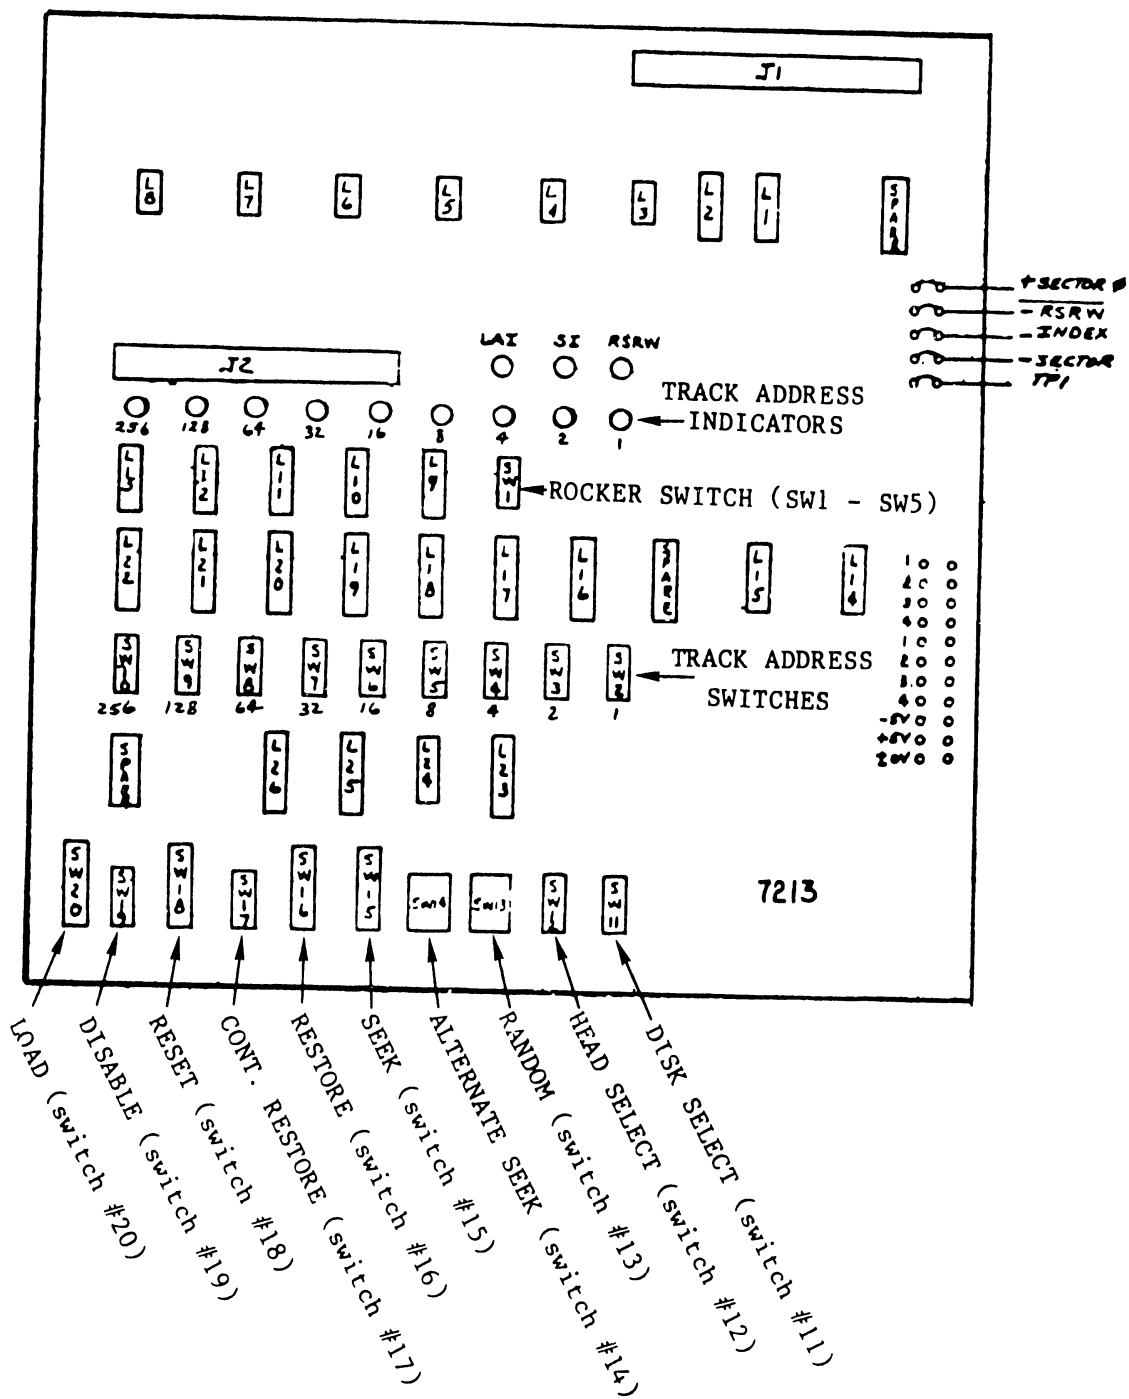

FIGURE 4-41 7213 DISK EXERCISER
1. TK1 through TK256 (switch #'s 2 through 10 in Figure 4-41). These are the track address switches. A track address is selected by setting the appropriate track address switches to ON. When the SEEK button is then pressed, the heads will move to the selected track. If the LOAD button is pressed, the selected track address will be loaded into the multiplexer of the exerciser board.
2. DS - DISK UPPER/LOWER (switch #11 in Figure 4-41) - When ON, the upper (removable) disk is selected; when OFF, the lower (fixed) disk is selected.
3. HS - HEAD UPPER/LOWER (switch #12 in Figure 4-41) - When ON, the upper head is selected; when OFF, the lower head is selected.
4. RND - RANDOM TRACK GENERATOR (switch #13 in Figure 4-41) - When ON, a random track pattern is generated; when OFF, the random track generator is off.
5. ALTERNATE SEEK (switch #14 in Figure 4-41) - When ON, the head positioner will continuously seek between two addresses: the address set on switches TK1 through TK256, and the address loaded in the multiplexer of the exerciser board (by a LOAD operation).
6. SEEK (switch #15 in Figure 4-41) - Pressing this momentary contact switch will move the heads to the address set on switches TK1 through TK256.
7. RST - RESTORE (switch #16 in Figure 4-41) - Pressing this momentary contact switch will position the heads at track zero.
8. CONT. RST (switch #17 in Figure 4-41) - When ON, the heads are repeatedly positioned to track zero.
9. RESET (switch #18 in Figure 4-41) - This momentary contact switch resets the exerciser.
10. DISP - DISABLE (switch #19 in Figure 4-41) - When ON, the track address is disabled. The head will remain positioned wherever it is when the DISP switch is turned on.
11. LOAD (switch #20 in Figure 4-41) - This momentary contact switch loads the track address (selected by switches TK1 through TK256) into the multiplexer of the exerciser.
12. UNIT SELECT (switch #1 in Figure 4-41) - This 5-bank rocker switch has the following functions:
- 1. The long cable plugs into J1 (Figure 4-41) on the tester. Caution must be exercised to ensure that pin 1 on the cables matches pin 1 on the receptacles.
- 2. The short cable plugs into J2 (Figure 4-41) on the tester.
1. Command RTZ with 7213 exerciser by pressing the RST (Restore) button (switch 16 in Figure 4-41).